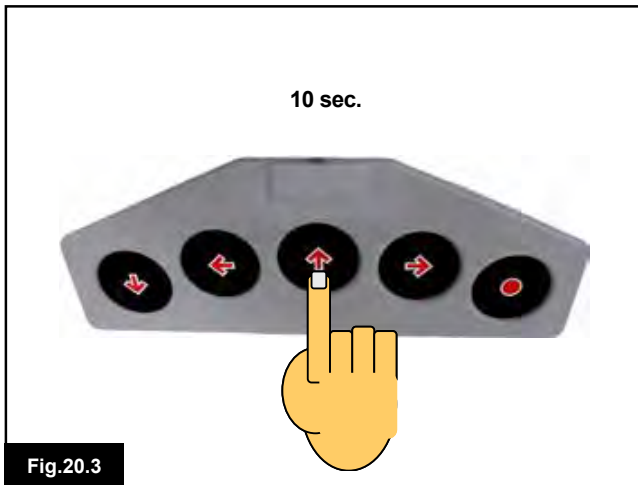

Fig.20.3
3. Operate your Input Device in the reverse direction and hold until it beeps, approximately 10 seconds. Then release (Fig 20.3 "B" or 20.4). (A short beep may be heard as the directions are changed).